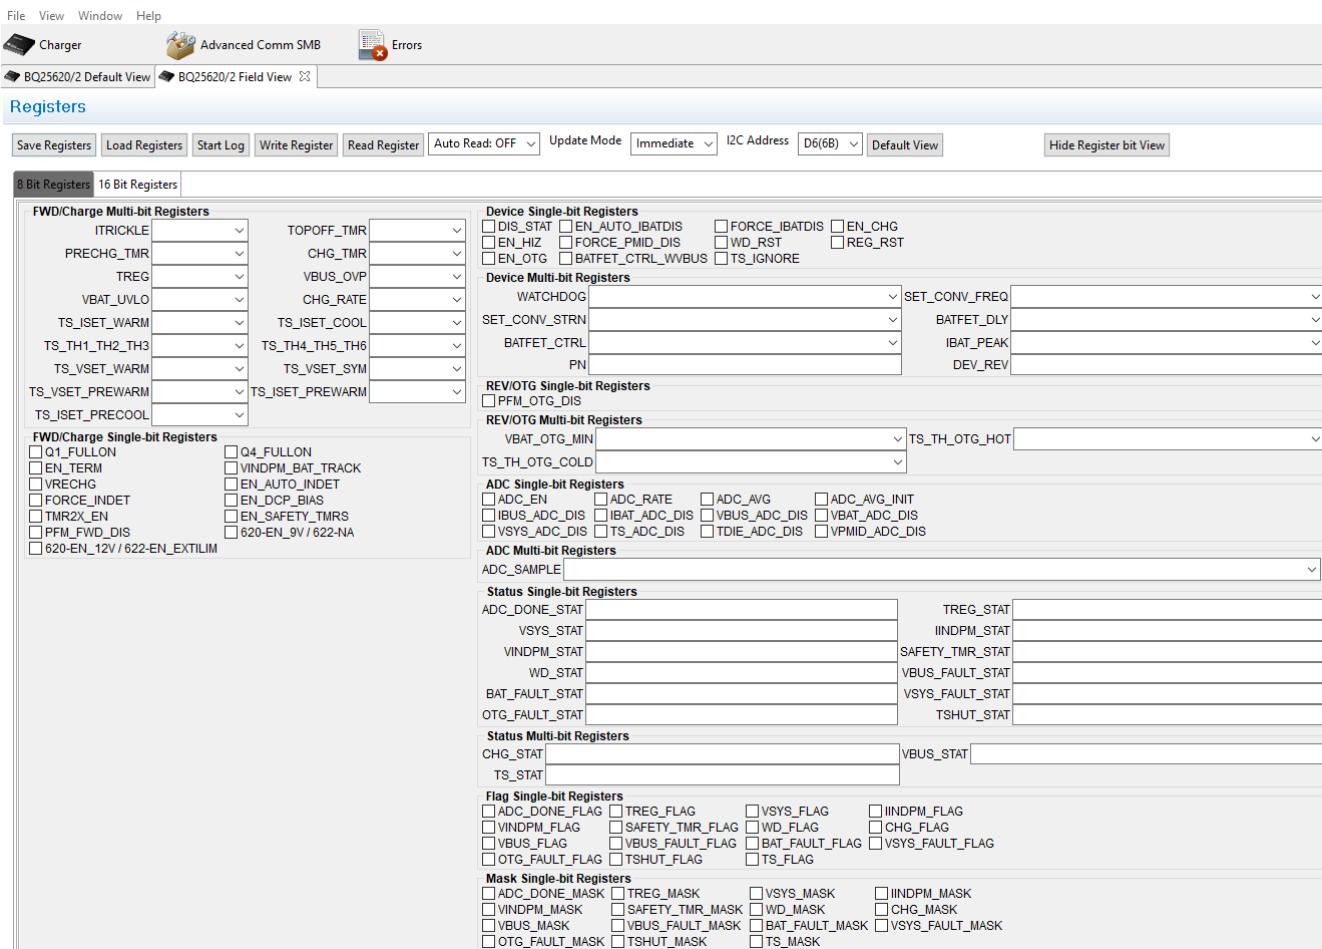

Figure 2-4. Main Window of BQ25620/2 EVM Software
3. Choose **Field View**, on the window that appears, and the main window of the BQ25620/2 EVM software will appear, as shown in Figure 2-4.
2. In the Field View (see Figure 2-4), make the following changes as necessary: